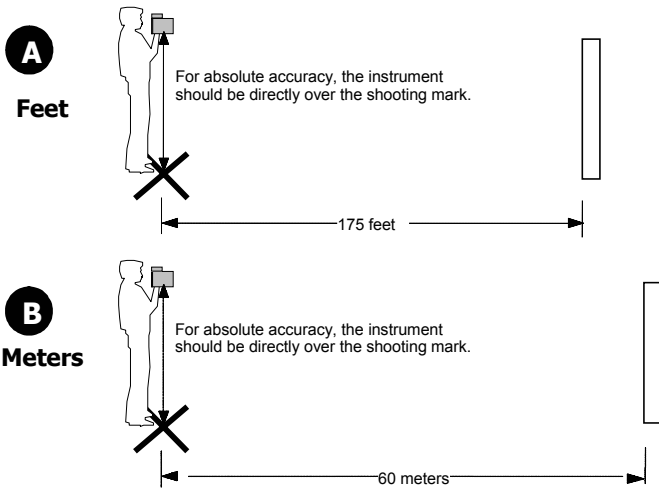

Figure 27. Fixed Distance Test
LTI recommends that the target should be 175 feet from the shooting mark. See Figure 27(A) on page 39. If there is not enough space available, that specific distance is not crucial. However, the distance between the target and the shooting mark must be a multiple of 1 foot, not a fraction of a foot.
LTI recommends that the target should be 60 meters from the shooting mark. See Figure 27(B) on page 39. If there is not enough space available, that specific distance is not crucial. However, the distance between the target and the shooting mark must be a multiple of 1 meter; not a fraction of a meter.